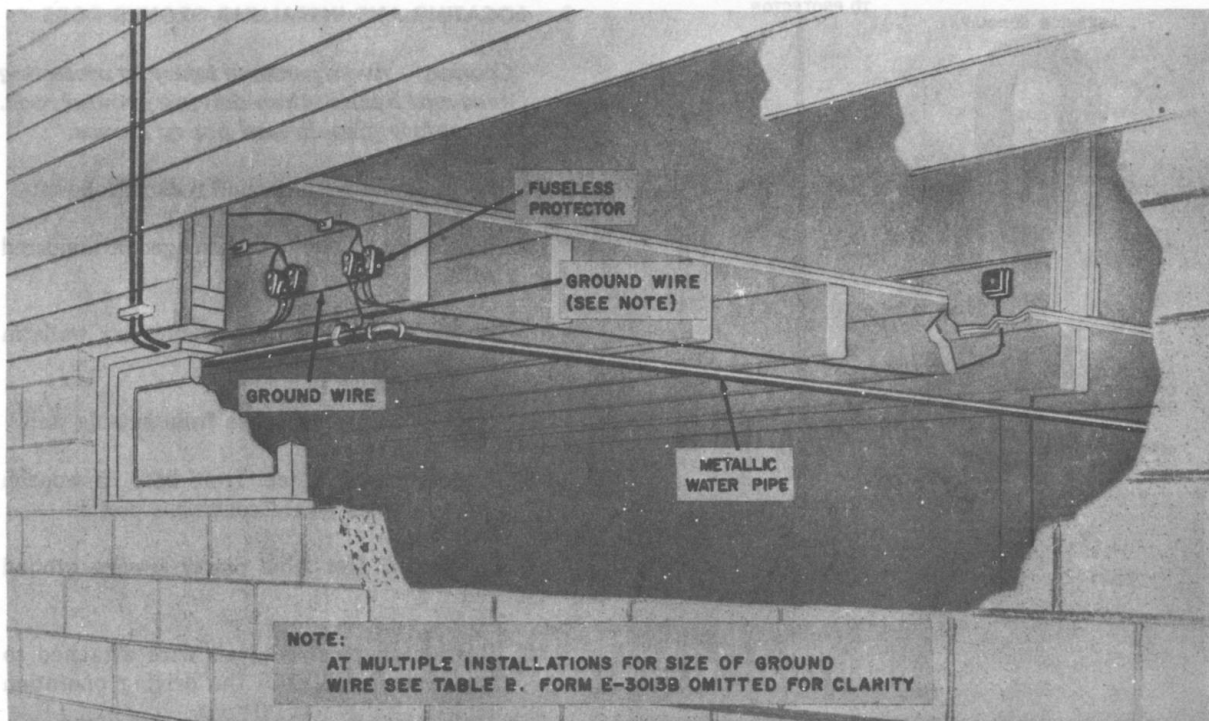

Fig. 21—Ground Wire Run, Fuseless Protector
4. GROUNDING (Fig. 21 Through 36)